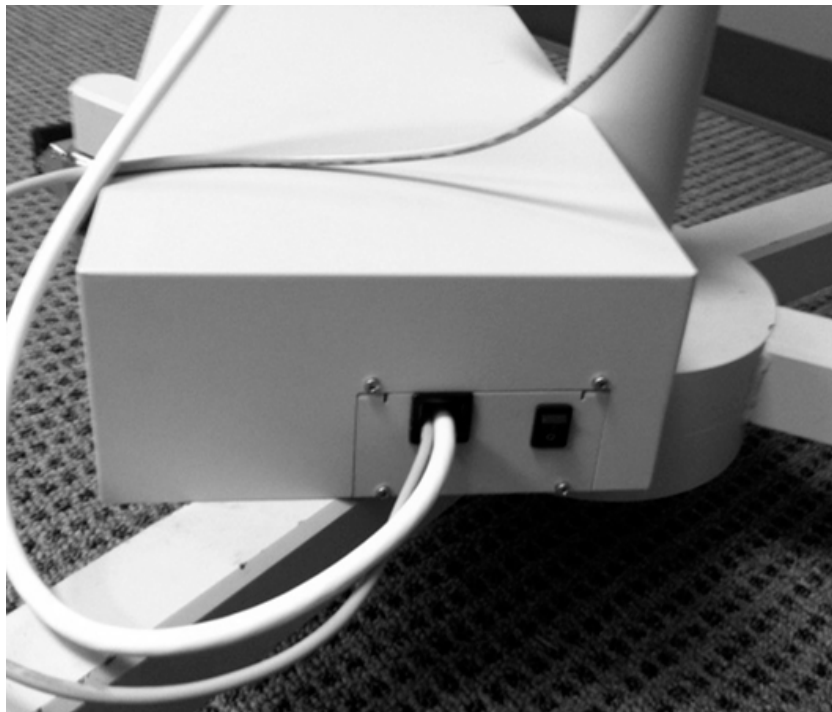

Figure 43: Installing the Cover of the Control Unit
1. Place, and attach, the Cover over the Control Unit as shown on Figure 43.